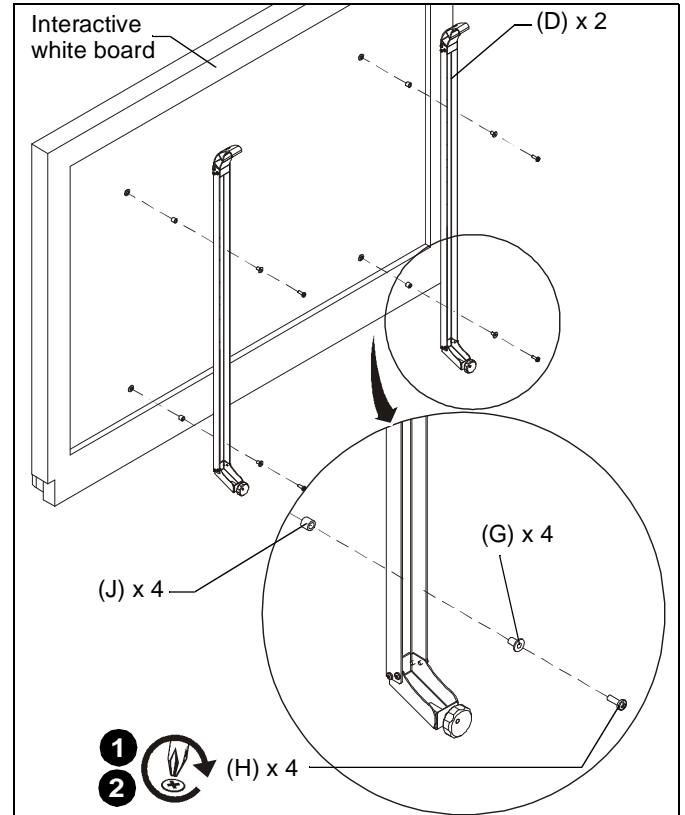

**Figure 3**
**NOTE:** The two WBM2 wall brackets on the wall assembly (K) must be mounted a minimum of 16" (406.4mm) apart, or a maximum of 42" (1066.8mm) apart.
- Using a level, mark the wall above existing chalkboard through top mounting hole in the wall assembly (K). (See Figure 3)
- Drill one 1/4" x 2-3/4" pilot hole at each marking. (See Figure 3)
- Install a toggler (B) into both pilot holes using a hammer. (See Figure 3)
- Use two 1/4-20 x 2-1/2" lag bolts (C) and two 1/4" flat washers (A) to attach wall assembly (K) to anchors in wall. (See Figure 3)
- Mark the wall through the lower mounting hole in the wall assembly (K). (See Figure 3)
- Drill one 1/4" x 2-3/4" pilot hole at each marking through lower mounting hole in wall assembly (K). (See Figure 3)